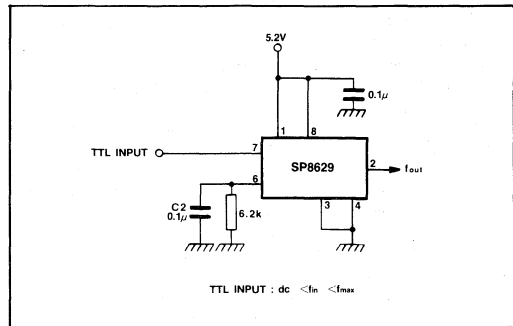

Fig.7 TTL input (DC <math><f\_{in}</math> <math><f\_{max}</math>)
- The input waveform will normally be sinusoidal but below 10MHz correct operation depends on the slew rate of the input signal. A slew rate of  $50V/\mu s$  will enable the device to operate down to DC. The device will operate with a TTL input signal as shown in Fig. 7 and is DC coupled to the input.